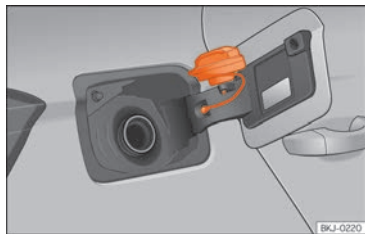

Fig. 147 Fuel tank flap with tank cap attached.
- Place it in the space on the hinge of the open flap >>> Fig. 147.